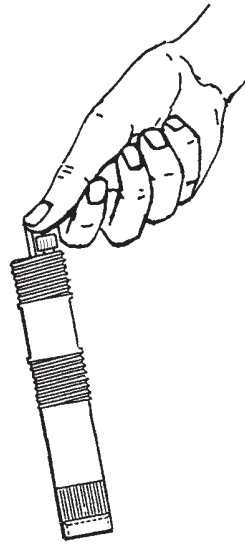

Figure 25. Removal of Vent Screw
2. Unscrew and remove electrolyte vent cap located on top of sensor body. See Figure 25. The electrolyte vent bleed tube will be exposed.